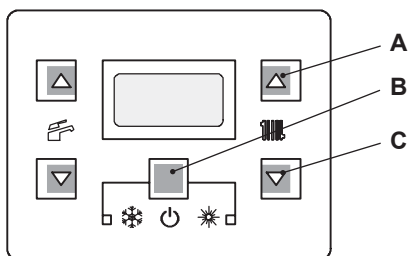

Figure 9.5
- 1 To enter in the parameters setting mode press contemporary the 3 keys (A - B - C Figure 9.5) for 10 second until the display shows Figure 9.6.
To reset the boiler to the normal operation press contemporary the 3 keys (A - B - C Figure 9.5) for 10 second. The following table gives details of each parameter and the possible value that can be set.